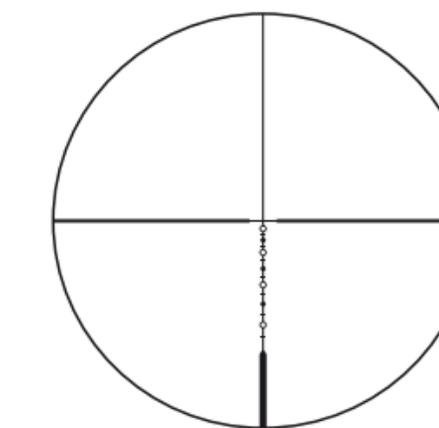

Fig. 3
(1) Focusing
- ① Look through the eyepiece with your eye positioned about 4 in (10 cm) away from the eyepiece to see the BDC 800 reticle (Fig. 3).